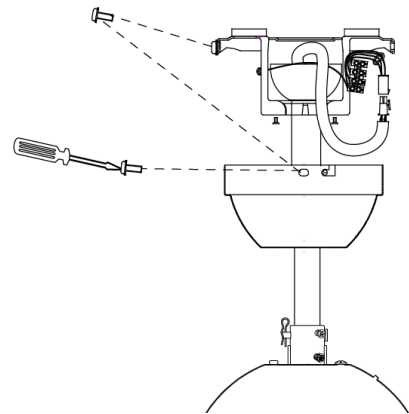

Fig. 9
- Cover the mounting bracket with the canopy. Ensure all electrical wiring is tucked inside the canopy and that they are not damaged during this step. Secure the canopy to the hanger bracket using the screws provided. Fig. 9